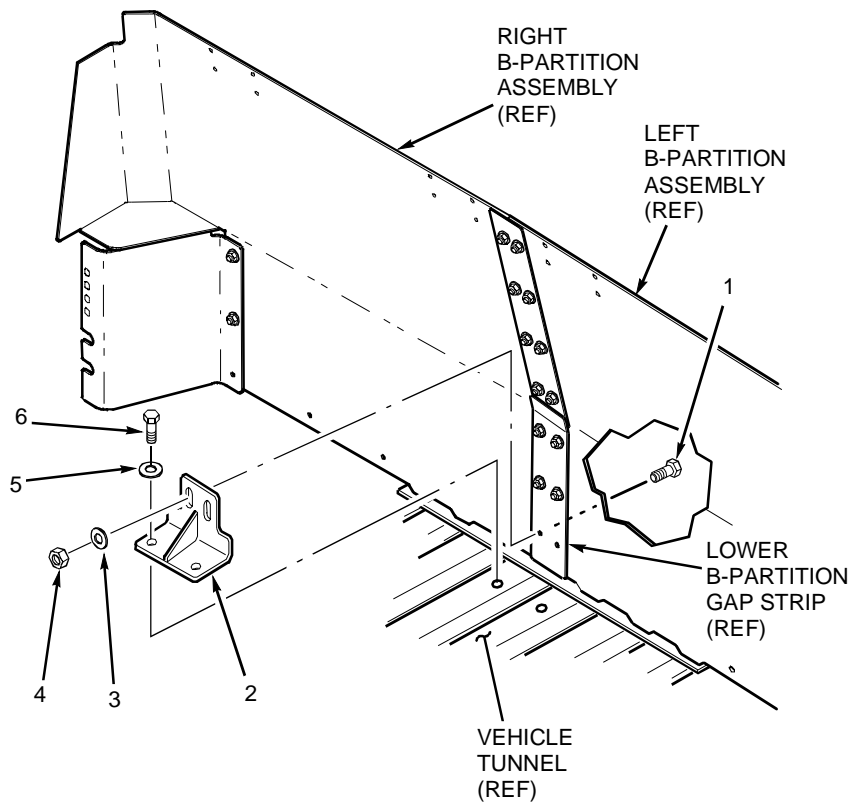

Figure 2-19. B-Partition Center Mount Removal (2 Door Only)
- 2) Remove lower B-partition center mount bracket as follows (see figure 2-19):
- a. Remove two capscrews (1), washers (3) and locking nuts (4) securing B-partition center mount bracket (2) to lower B-partition gap strip and left and right B-partition assemblies. Discard locking nuts (4).
- b. Remove two capscrews (6) and washers (5) securing center mount bracket (2) to vehicle tunnel. Remove center mount bracket (2).